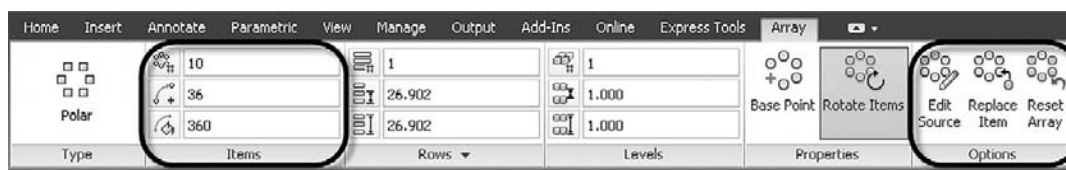

FIGURE 8.5
The Ribbon has two areas of interest, the Items category and the Options category, as seen in Figure 8.5. The Items category is relatively self-explanatory. Top to bottom, the first value (10) is the number of items in the array, and you can change that for an instant update. Below that is the angle between all the objects (36°), and finally, below that, the total angle filled (360° , or a full circle). This should make sense as $36 \times 10 = 360$.